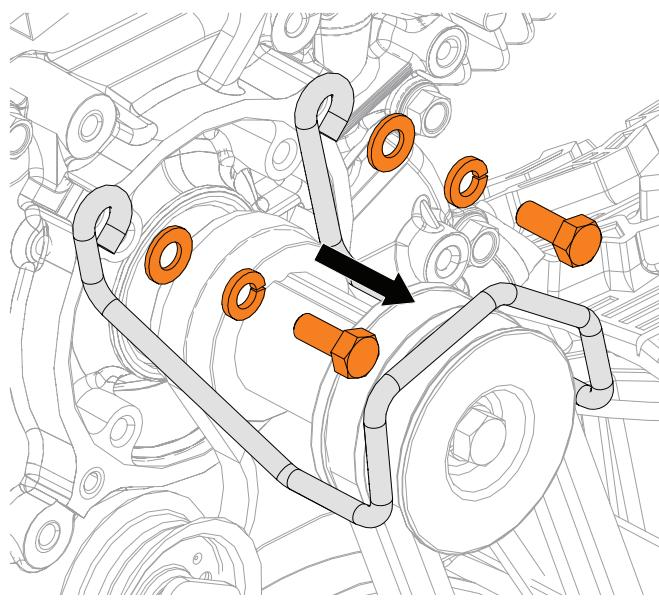

Figure 7
10. Remove hardware retaining belt finger to engine and remove belt finger. See Figure 7.
3. Remove belt cover and belt finger as shown in Figure 6 and Figure 7.